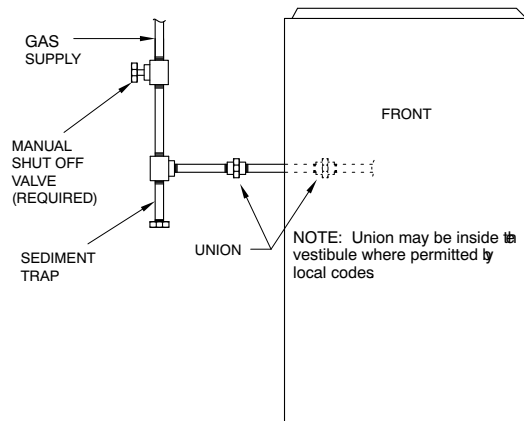

Fig. 32 – Typical Gas Pipe Arrangement
Install a sediment trap externally in the riser leading to furnace as shown in Fig. 32. Connect a capped nipple into lower end of tee. Capped nipple should extend below level of furnace gas controls. Place a ground joint union between furnace gas control valve and exterior manual equipment gas shutoff valve.
5. Fasten the external electrical box to the furnace casing using two (2) sheet metal screws.
11. Connect field power and neutral leads to furnace power leads inside the external electrical box as shown in Fig. 32.